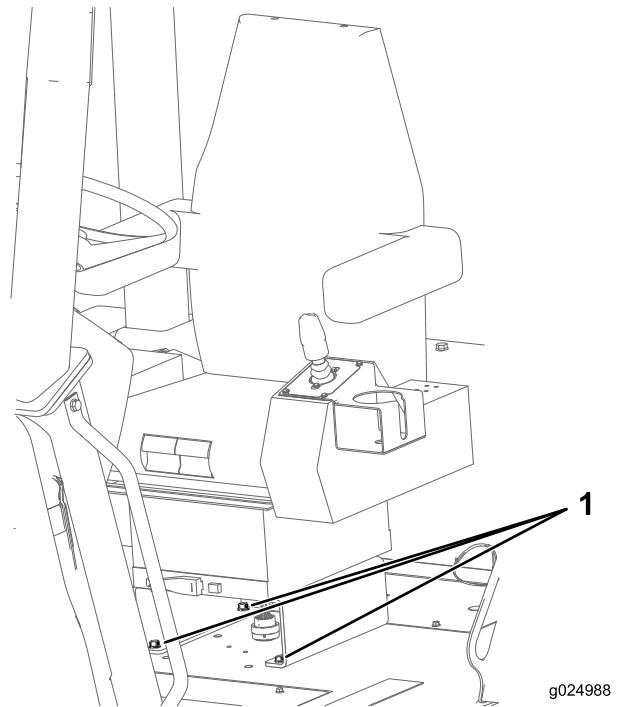

Figure 118
1. Check that the bolts that secure the seat to the chassis of the machine are torqued to 27 to 34 N·m (20 to 25 in-lb); refer to Figure 118.